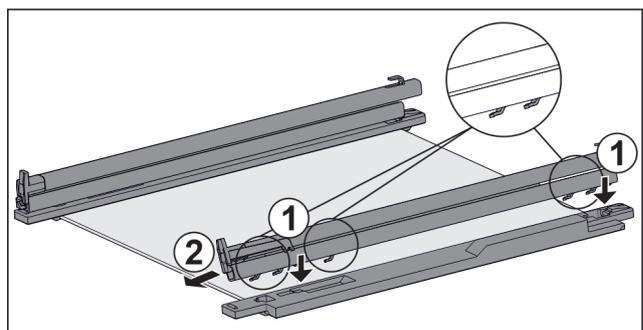

Fig. 115 Glass shelf with rails and retaining parts
- ▶ Place rail hooks onto the openings of the **left** retaining part. *Fig. 115 (1)*
- ▶ Push rail forwards. *Fig. 115 (2)*
- ▶ Place rail hooks onto the openings of the **right** retaining part. *Fig. 115 (1)*